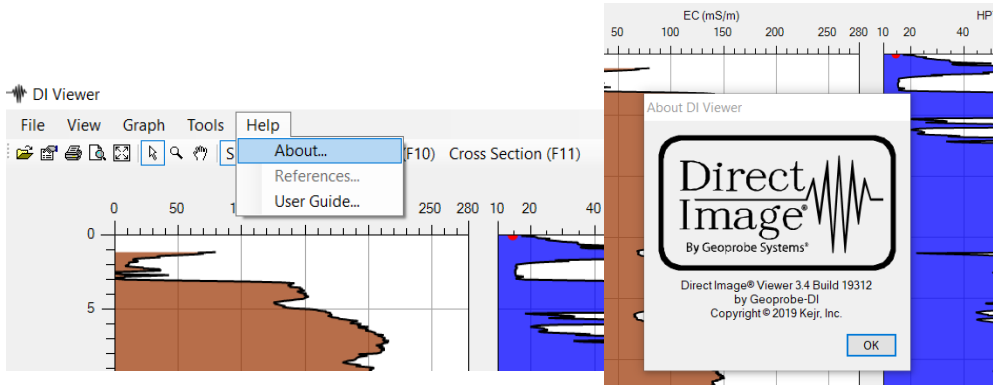

Figure 3: Accessing the software version and build numbers
1. Select the “Help” tab and then “About” (Fig. 3).
1. Select the primary at the bottom left of the screen (Figure 3) which defaults to EC.